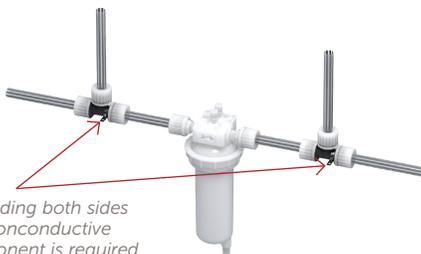

Figure 5.
**NOTE:** Nonconductive components within the system need to be grounded on either side of the component, Figure 5.